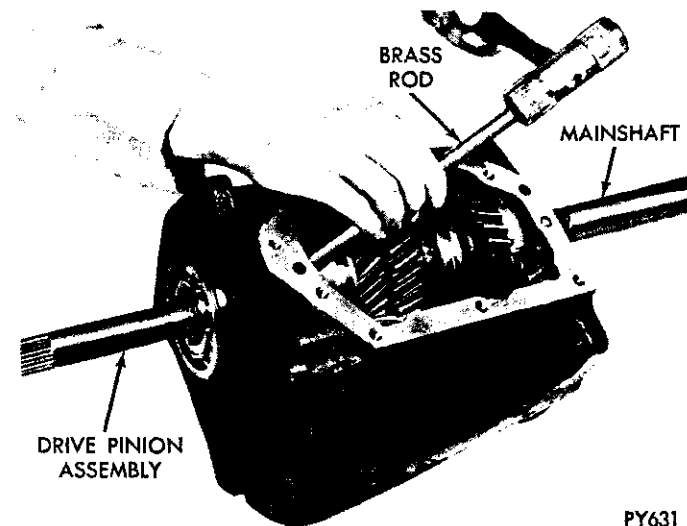

Fig. 5—Tap Drive Pinion Forward for Mainshaft Pilot Clearance
(2) Slide retainer and gasket forward off the drive pinion. Pry pinion oil seal from bearing retainer. To avoid leakage around the new seal, do not nick or scratch the bore in which the seal is pressed, or the surface on which seal bottoms.
- (3) Tap drive pinion forward carefully with a brass drift, as far as possible to provide maximum disassembly clearance for mainshaft removal (Fig. 5).
(12) Carefully tap drive pinion forward to provide maximum clearance for mainshaft installation (Fig. 5).